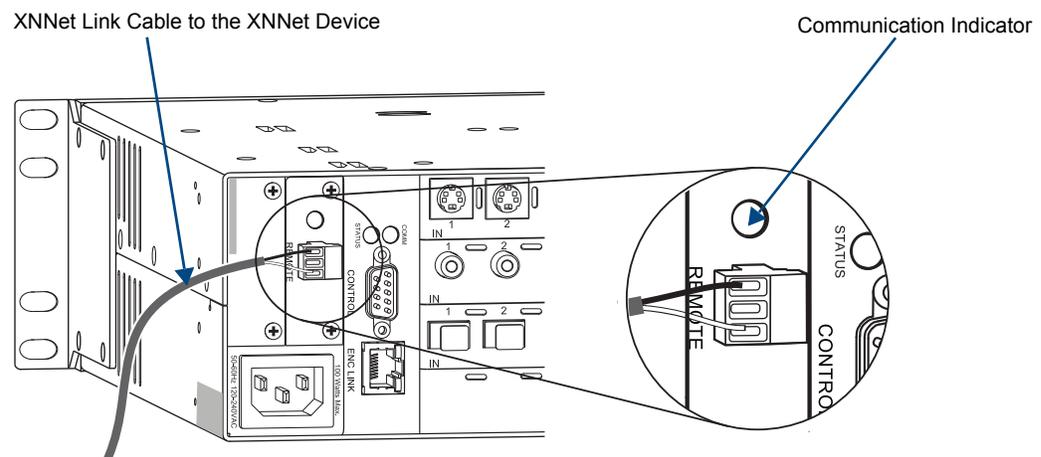

FIG. 76 Insert wires into the Remote connector on the board
5. Insert the two wires of the XNNet link cable from the device into the Remote connector leaving the center slot empty (FIG. 76).